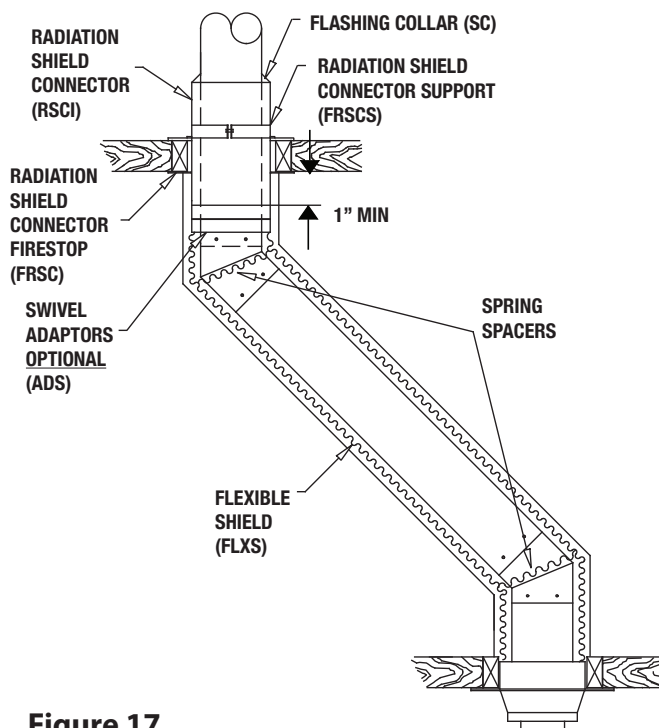

Figure 17
- At the ceiling level from the top, install a Radiation Shield Connector (RSCI) and a Radiation Shield Support (FRSCS) attached but not tightened together (see Figure 17).
- Step 1. Install the insulated offset elbow on the vertical chimney length. Turn it in the required direction and fasten it to the chimney with the (4)-1/2" metal screws provided.
- Step 3. Use another elbow to turn the chimney vertically. Again secure the elbow to the chimney length using the (4) 1/2" metal screws.
Attach a spacer spring around the chimney at each elbow to help keep the Flexible Shield centered. (See Figure 17) Slide the Flexible Shield up the chimney and attach it below the ceiling to the Radiation Shield Connector using (3) - 1/2" self tapping metal screws. If you are limited in space to screw, install a Swivel Adaptor (SA) (see Figure 17) below the Shield Connector (RSCI) and one on the top end of the Flexible Shield.